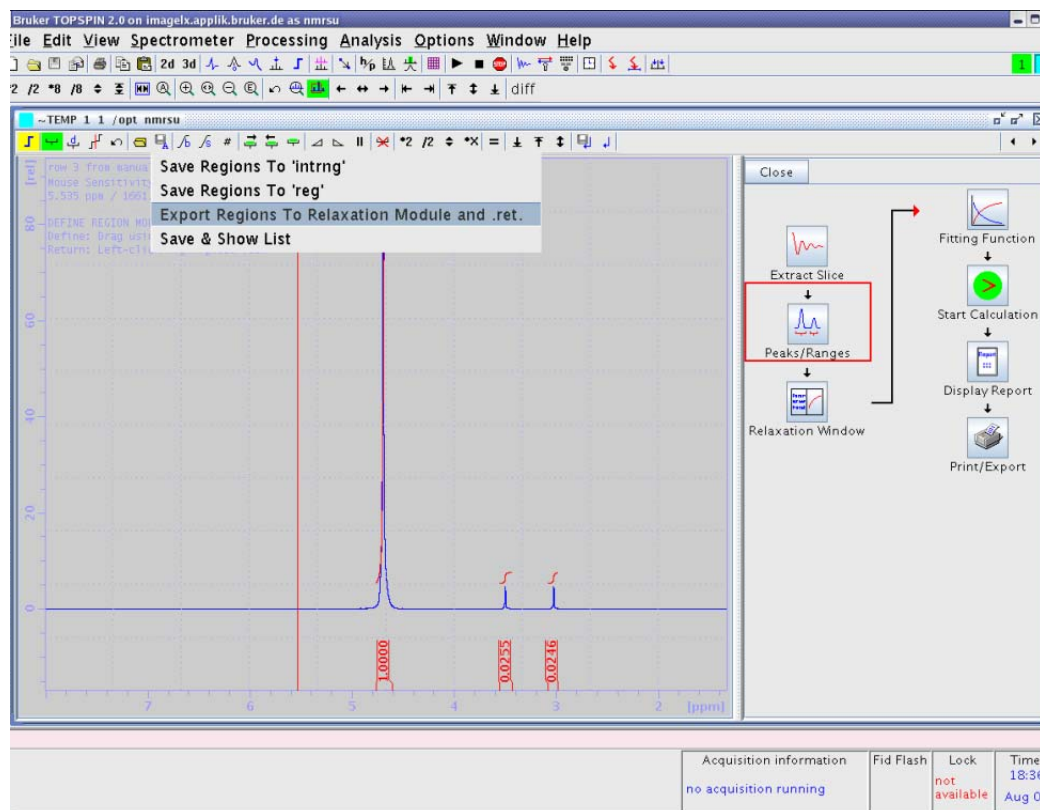

Figure 3.12 Leaving the Integration Module
8. Click on the left floppy button to exit the integration window and select **Export Regions to Relaxation Module and return** as shown in Figure 3.12: